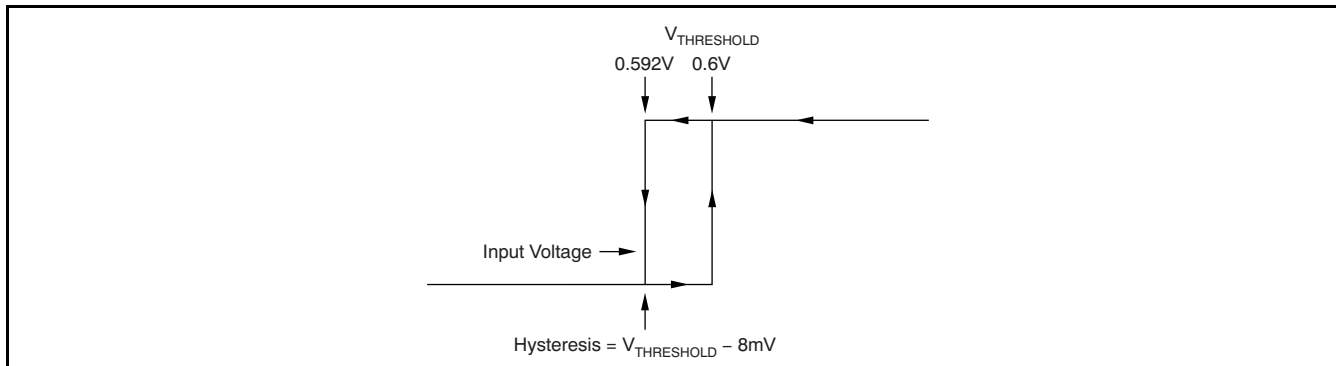

Figure 2. Typical Comparator Hysteresis
- (1) Hysteresis refers to the threshold (the threshold specification applies to a rising edge of a noninverting input) of a falling edge on the noninverting input of the comparator; see Figure 2.
- (2) Specified by design
- (3) V_{ID} refers to the differential voltage at the comparator inputs.
- (4) Pulling the open-drain output to the range of 2.7 V to 18 V is permissible, regardless of V_S .
- (5) The comparator response time specified is the interval between the input step function and the instant when the output crosses 1.4 V.
- (6) The $\overline{\text{RESET}}$ input has an internal 2-M Ω (typical) pulldown. Leaving $\overline{\text{RESET}}$ open results in a LOW state, with transparent comparator operation.